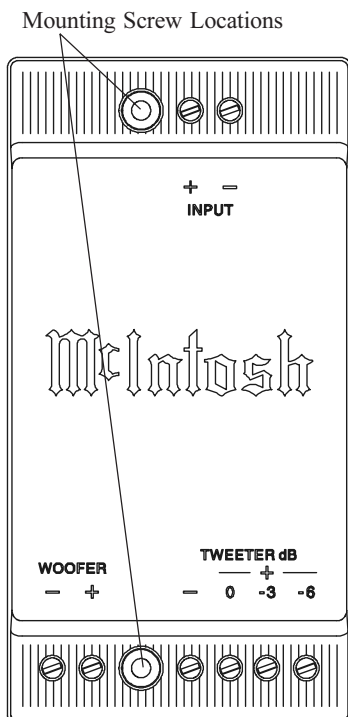

Figure 3
1. Using the Crossover as a template, mark the two locations to drill holes in the mounting surface for the Crossover mounting screws. Drill two holes with an appropriate size drill bit. Refer to figure 3.